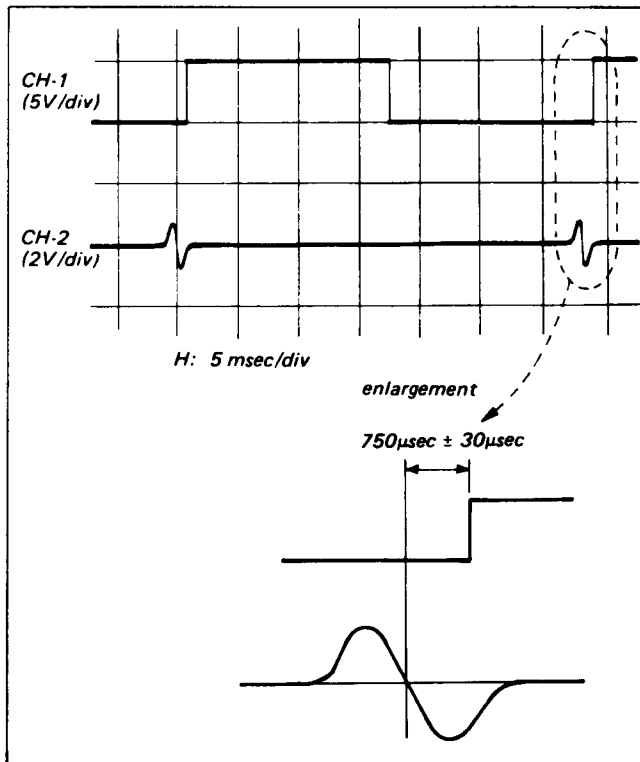
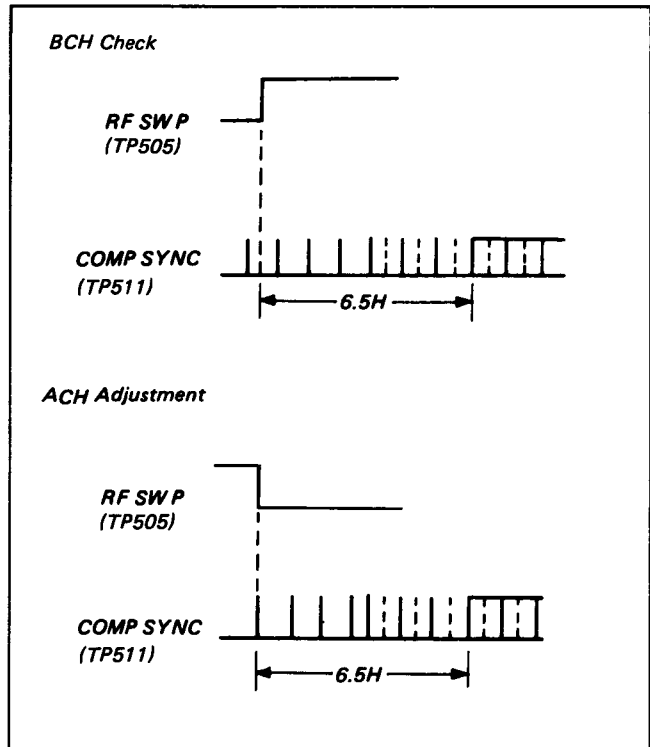

Fig. 5-7. RF switching position adjustment (1)
Fig. 5-8. RF switching position adjustment
- (1) Adjust to  $750 \mu\text{sec} \pm 30 \mu\text{sec}$  with RV502. (See Fig. 5-7)
- (2) Change connection of CH-2 only to pin 40 of IC501.
- (3) Mode: Recording
- (4) Confirm that the Lock Phase of RF SW P (BCH) is 6.5H.
- (5) Adjust RV501 so that the Lock Phase of RF SW P (ACH) is 6.5H. (See Fig. 5-8)